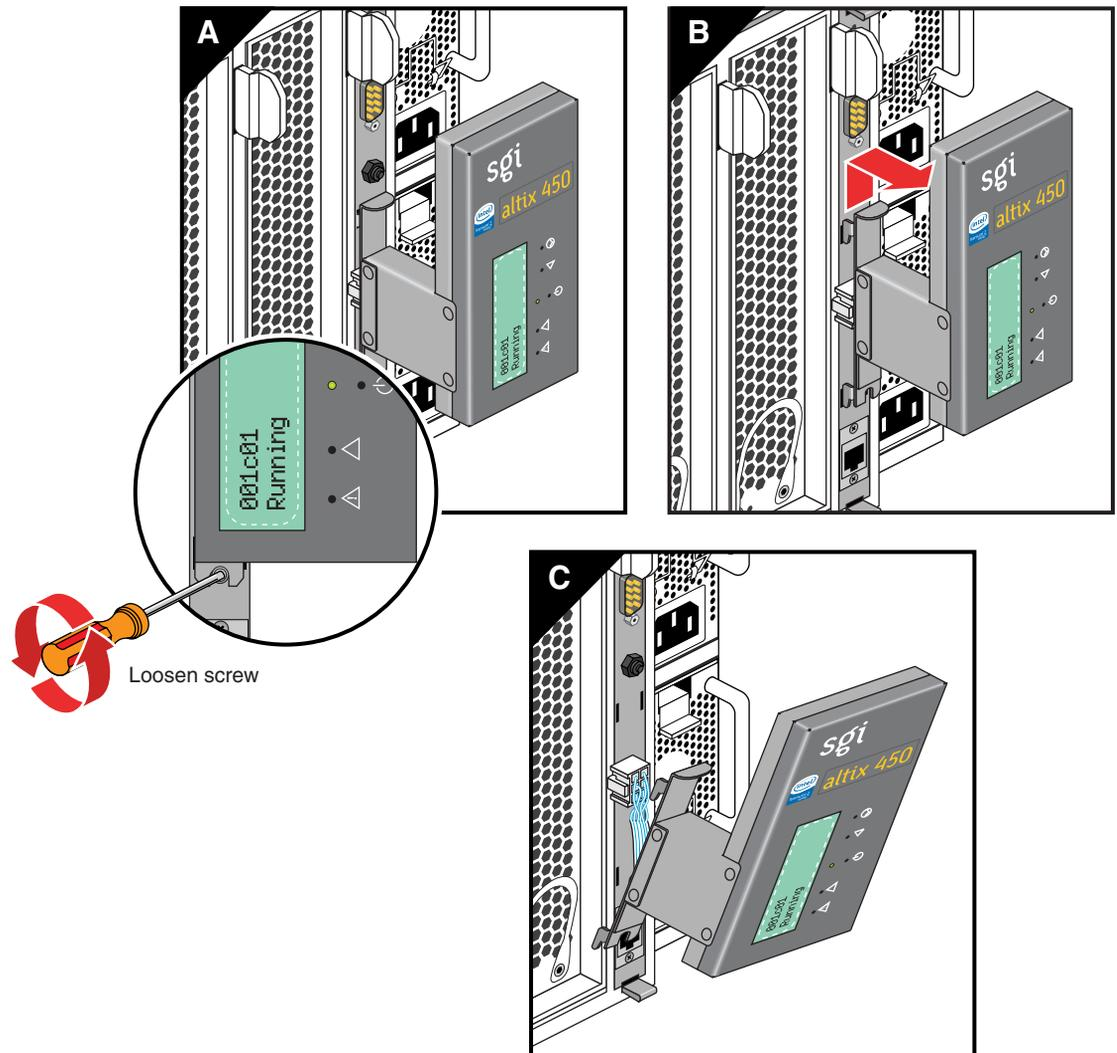

Figure 6-1 Removing the L1 Controller Panel
1. Using a T10 torx driver, loosen the lower screw that holds the display panel to the IRU chassis, see Figure 6-1 on page 107.